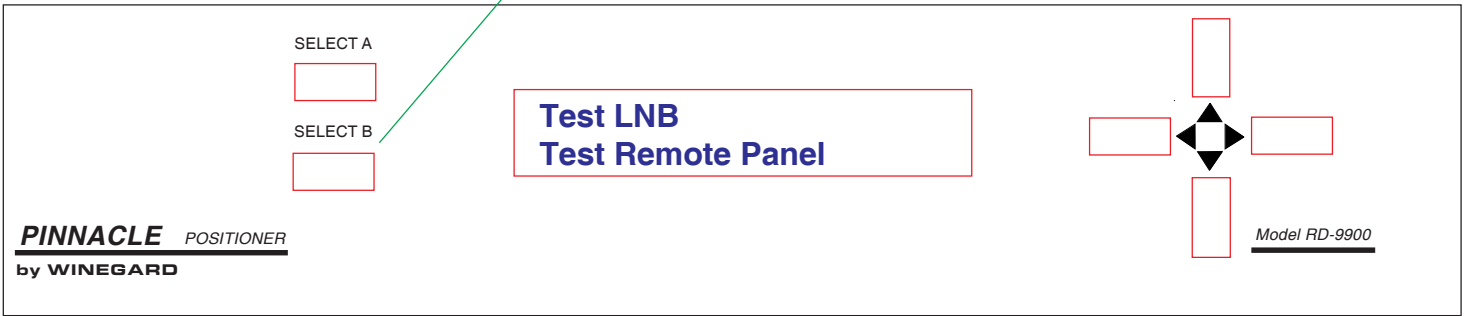

Figure 11
7. Press **[SELECT B]** Test Remote Panel, see Figure 11.